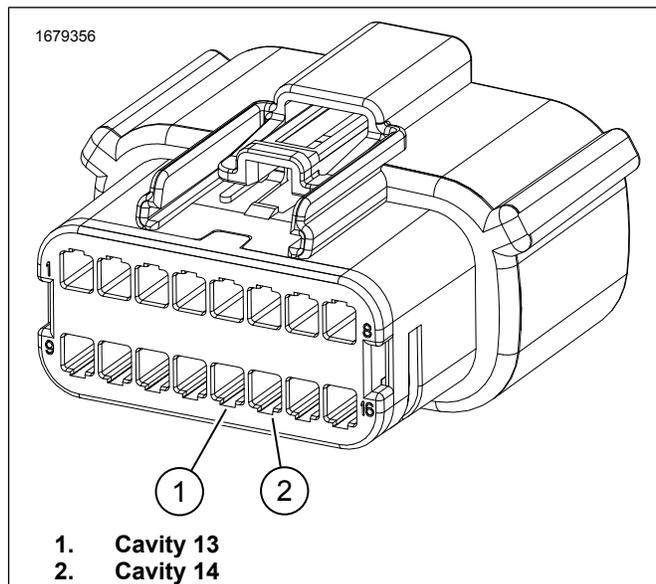

Figure 3. 16-Pin Connector C288_1
4. Figure 3 Remove plugs from cavity's 13 and 14 of connector [C288B_1].